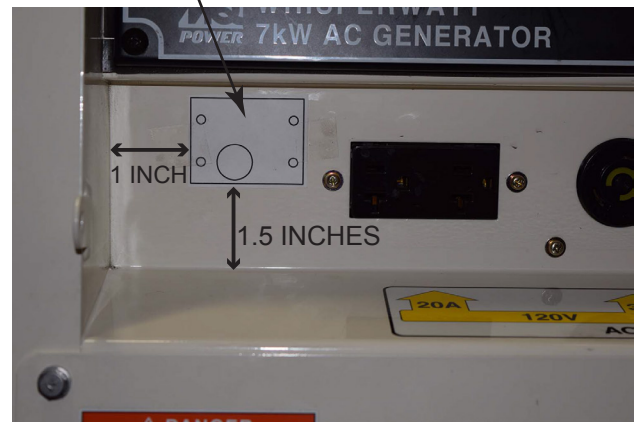

Figure 3. Template Attachment
2. On the front of the generator below the control panel, measure and mark 1 inch from the left and 1.5 inches from the bottom. Tape the template at this position (Figure 3).